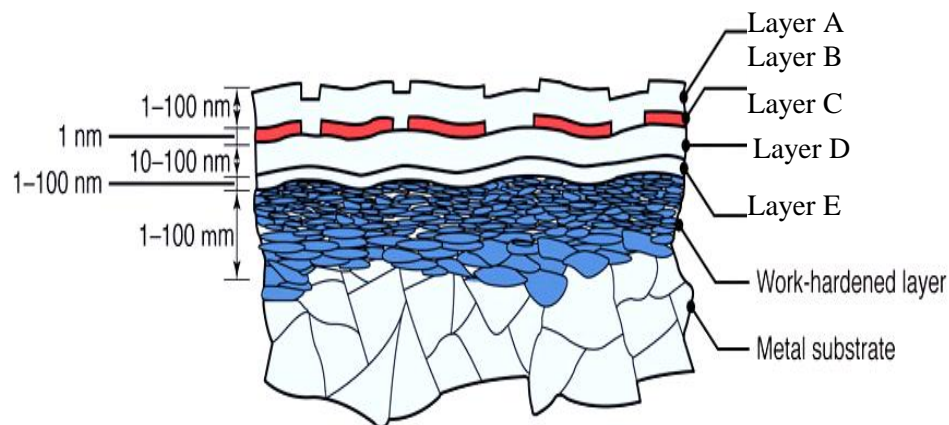

Figure Q4[b]
- [b] Figure Q4[b] shows a schematic illustration of cross-section structure of a metal.**